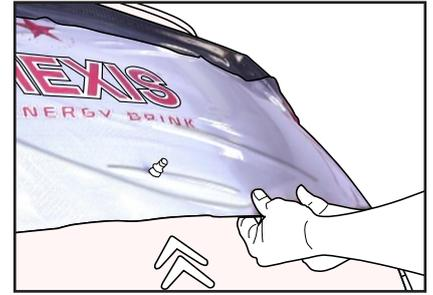

Figure 14
- › Pull on the bottom and then on the top of the film to reduce the tunnels that have formed during the previous step. (FIG. 14)